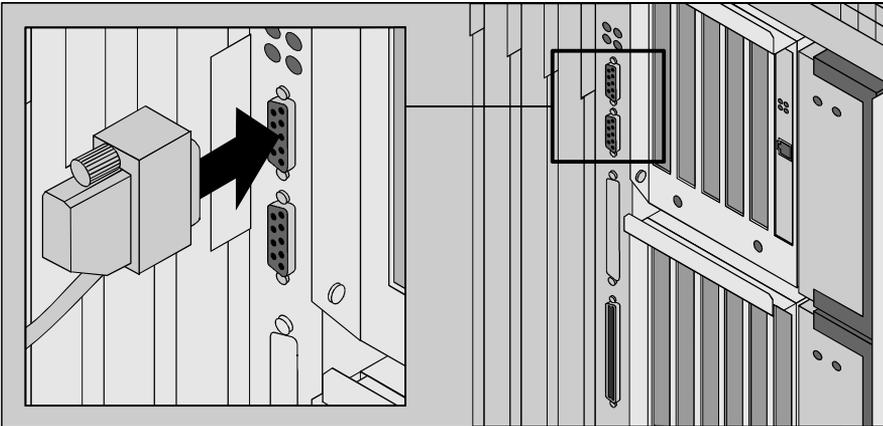

Figure 7: Connecting the console to the backplane of the device (system cabinet, E45 model shown here)
- ▶ Plug the other cable connector into the RM600 E system, as described in figure 7 on page 54.